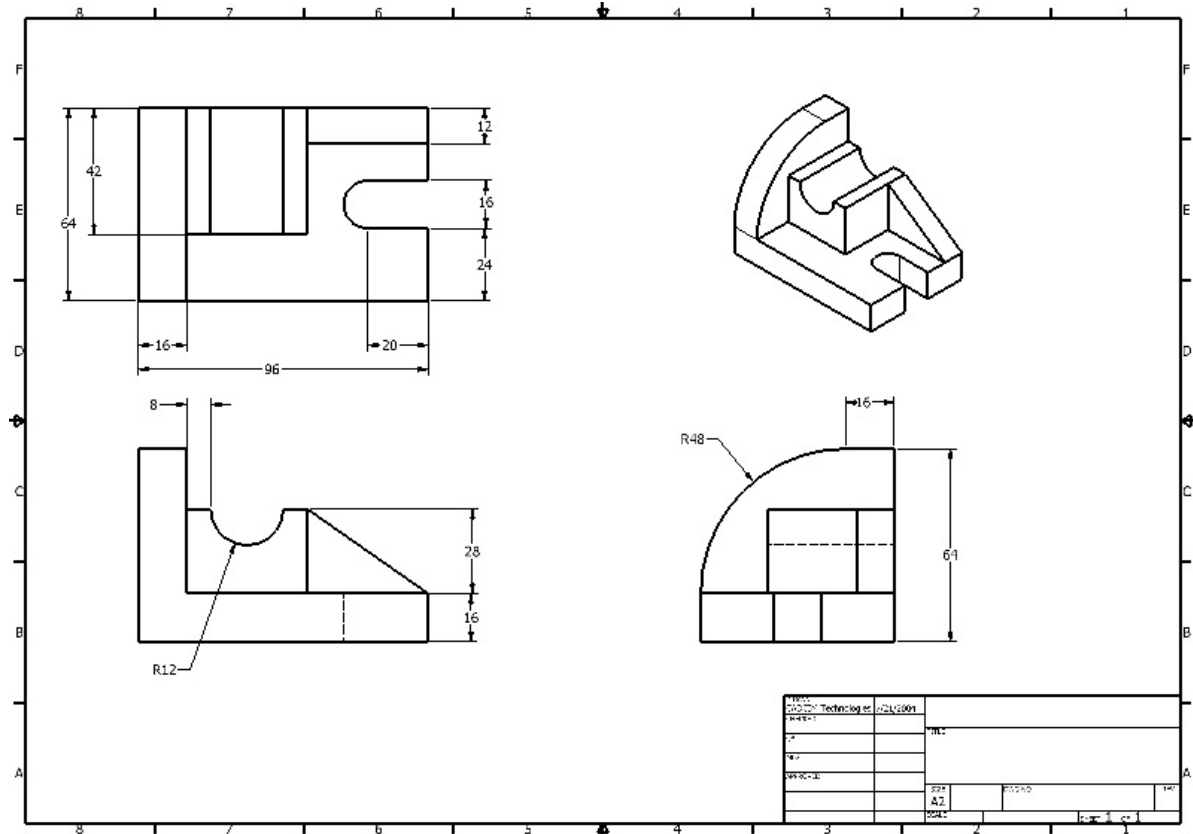

Figure 12-21 The dimensioned drawing views to be generated for Tutorial 1
In this tutorial, you will generate the top view, front view, right-side view, and isometric view of the model created in Exercise 1 of Chapter 5. You will use the ANSI mm standard drawing sheet of A2 size. Dimension the drawing views, as shown in Figure 12-21. You will create a new dimension style with the name **Custom** for dimensioning the drawing view. This dimension style has the following specifications: **(Expected time: 30 min)**
7. Use the **Dimension** tool to add the missing dimensions, refer to Figure 12-21.